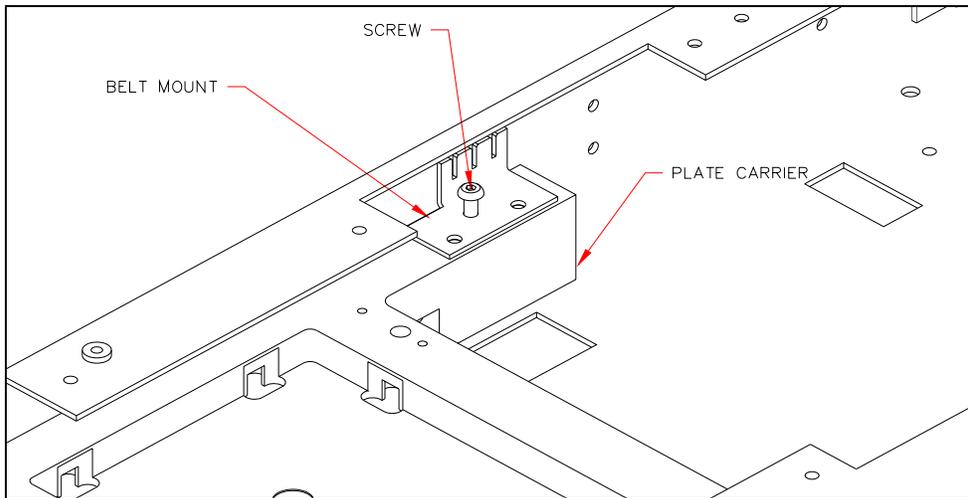

Figure 11-20 Tightening the Belt Mount
- 3 Fasten the belt mount to the plate carrier assembly using 3 M3 x 6mm button head screws and Loctite 222 (Figure 11-20).